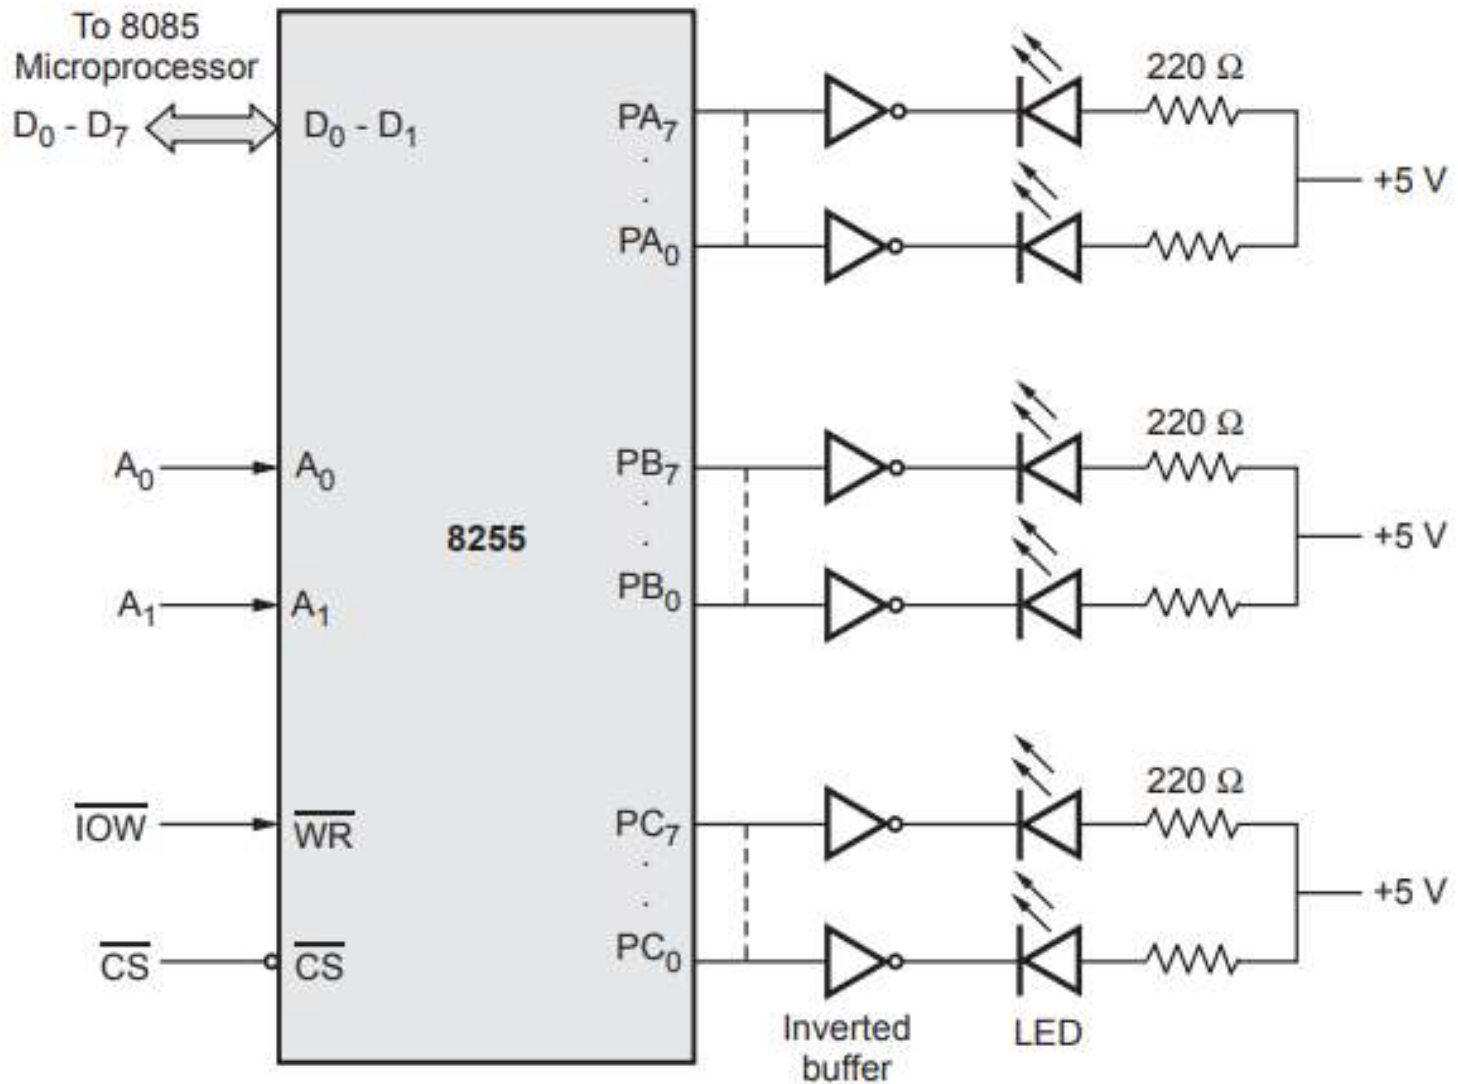

Fig. 3.11.2 The interfacing circuit for traffic tight control
- The green (G) light for a particular lane remains ON for DELAY-1 seconds followed by the standby signal for DELAY-2 seconds.
- The traffic light control is implemented using the 8085 microprocessor kit having 8255 on board and the interfacing circuit is illustrated in Fig. 3.11.2.